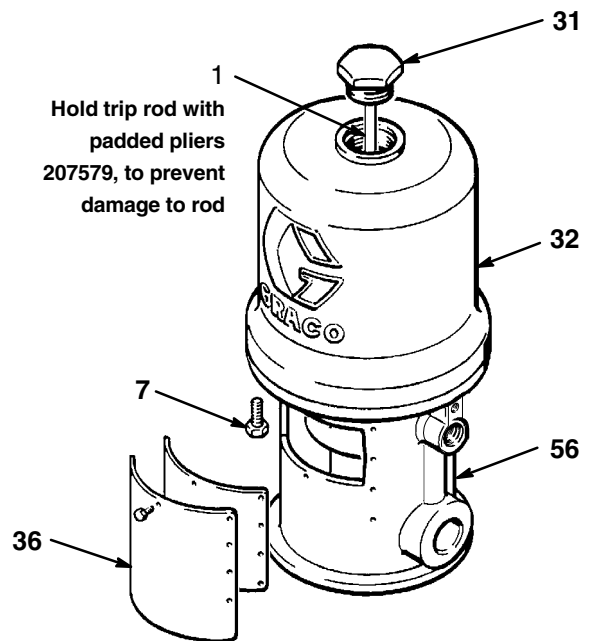

Fig. 4
3. Manually push up on the piston rod to move the piston assembly to the top of its stroke. Unscrew the cylinder cap nut (31) from the cylinder (32). Pull up on the cap nut. Grip the trip rod (1) with padded pliers 207579 and screw the cap nut off the trip rod. See Fig. 4.
4. Remove the eight screws (7) holding the cylinder (32) to the base (56). Carefully pull the cylinder *straight up* off the piston. See Fig. 4.